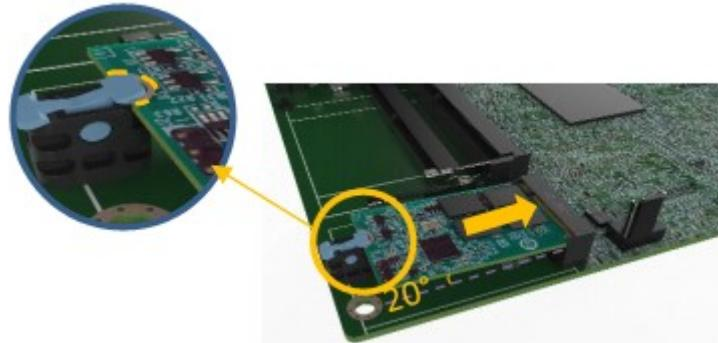

Figure 4-13: Securing the M.2 Module
- Step 4:** Press the M.2 module down until it is secured into place by the retainer. (See **Figure 4-13**)